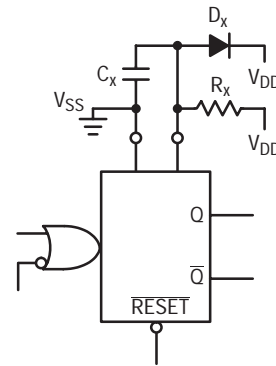

Figure 11. Use of a Diode to Limit Power Down Current Surge
- If $C_X > 15\ \mu F$, use discharge protection diode per Fig. 11.
When a more rapid decrease of V_{DD} to zero volts occurs, the MC14538B can sustain damage. To avoid this possibility use an external clamping diode, D_X , connected as shown in Fig. 11.